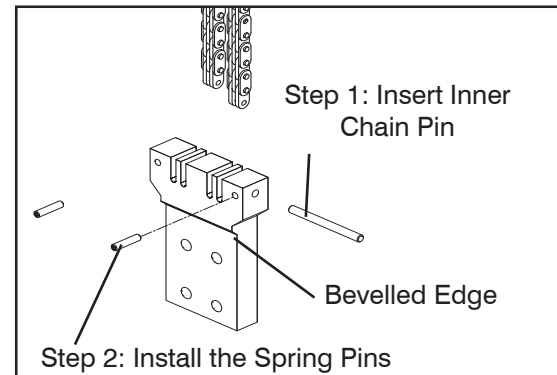

Figure 5-46. Inner Chain Mount Installation
1. Align the chains to the chain mount pin slots and install the inner chain pin. Ensure the bevelled edge is facing up. See Figure 5-46.